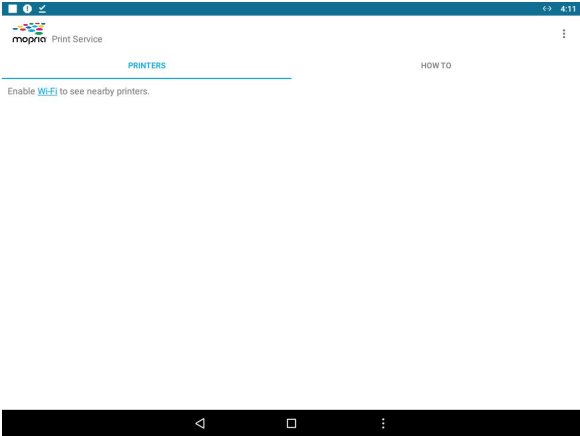

Figure 8
4. After entering the printing software interface, click “Enable Wi-Fi to see nearby printers” to connect the printer’s Wi-Fi, as shown in Figure 8. The Wi-Fi connection is successful, as shown in Figure 9.